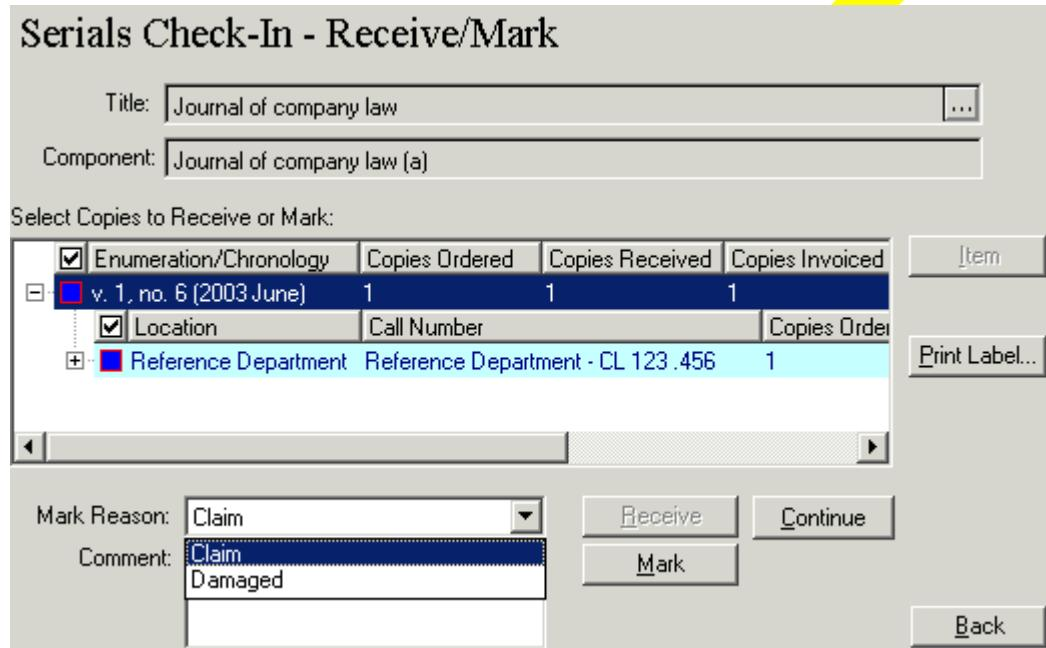

Figure 9-12. Mark Reason drop-down list
- After you have selected the copies that you want to mark from the issue hierarchy, select a mark reason from the drop-down menu in the **Mark Reason** field (see Figure 9-12).